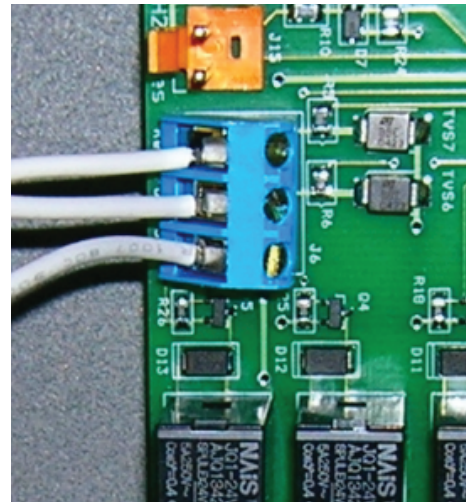

Figure 17. Remote Pool-Off-Spa Connection (3-Wire Connection)
1. Turn off the power to both the pool/spa control system and the heater unit. Refer to Figure 17.
4. Connect the wiring from the pool/spa control system to the heater remote control terminal. See Figure 17.